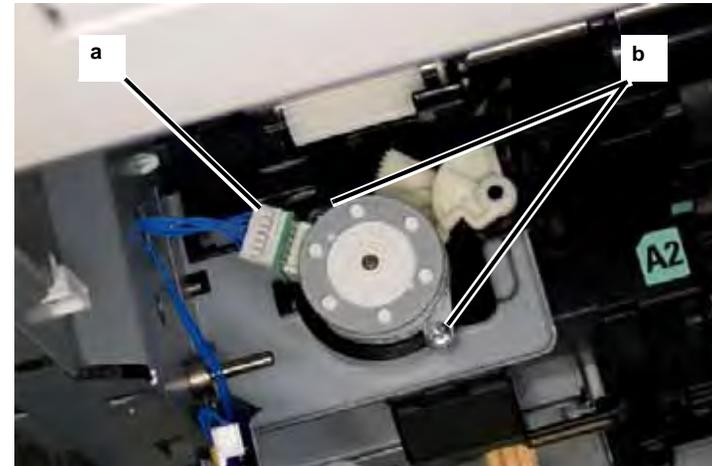

Figure 2 Removing Screws & PJ
4. Perform the following (Figure 2).
- b. Remove the Screws (2) and the Offset Motor.